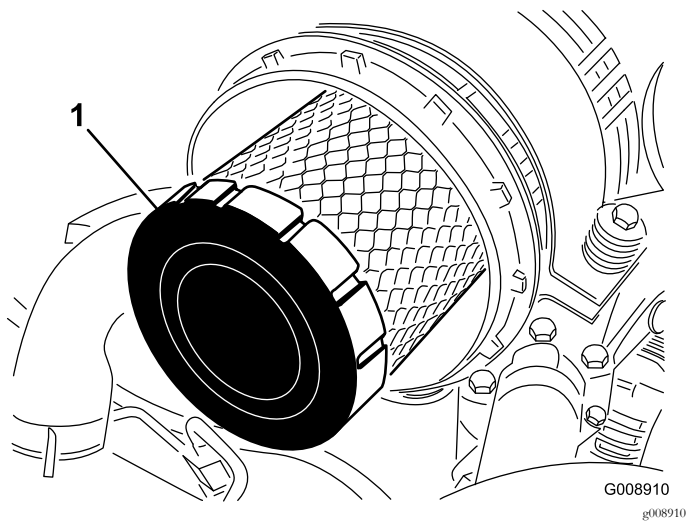

Figure 63
4. Remove and replace the primary filter (Figure 63).